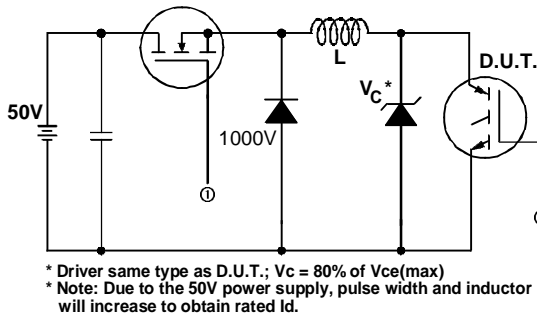

Fig. 13a - Clamped Inductive Load Test Circuit
- ② V_{CC} = 80%(V_{CES}), V_{GE} = 20V, R_G = 5.0Ω. (See fig. 13a)
- ③ Repetitive rating; pulse width limited by maximum junction temperature.
- ④ Pulse width ≤ 80μs; duty factor ≤ 0.1%.
- ⑤ Pulse width 5.0μs, single shot.
- ⑥ When mounted on 1" square PCB (FR-4 or G-10 Material). For recommended footprint and soldering techniques refer to application note #AN-994.
- ⑦ Refer to application note # 1023, "Surface Mounting of Larger Devices."